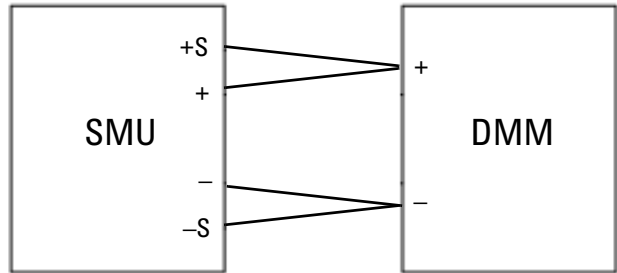

Figure 3-1 Voltage test setup (no load condition)
- 1 Turn off the U2722A/U2723A. Connect the DMM to the output to be tested (refer to Figure 3-1). Ensure that no load is connected. Turn on the U2722A/U2723A.